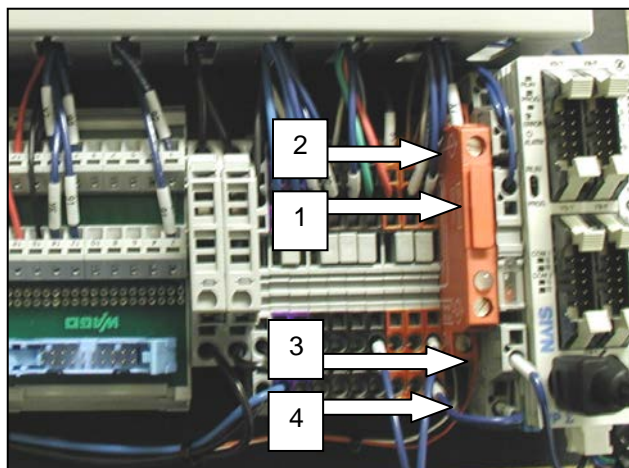

Figure 3-111. Grey Relay location
2. Remove fuse drawer from top of Relay (Figure 3-111).